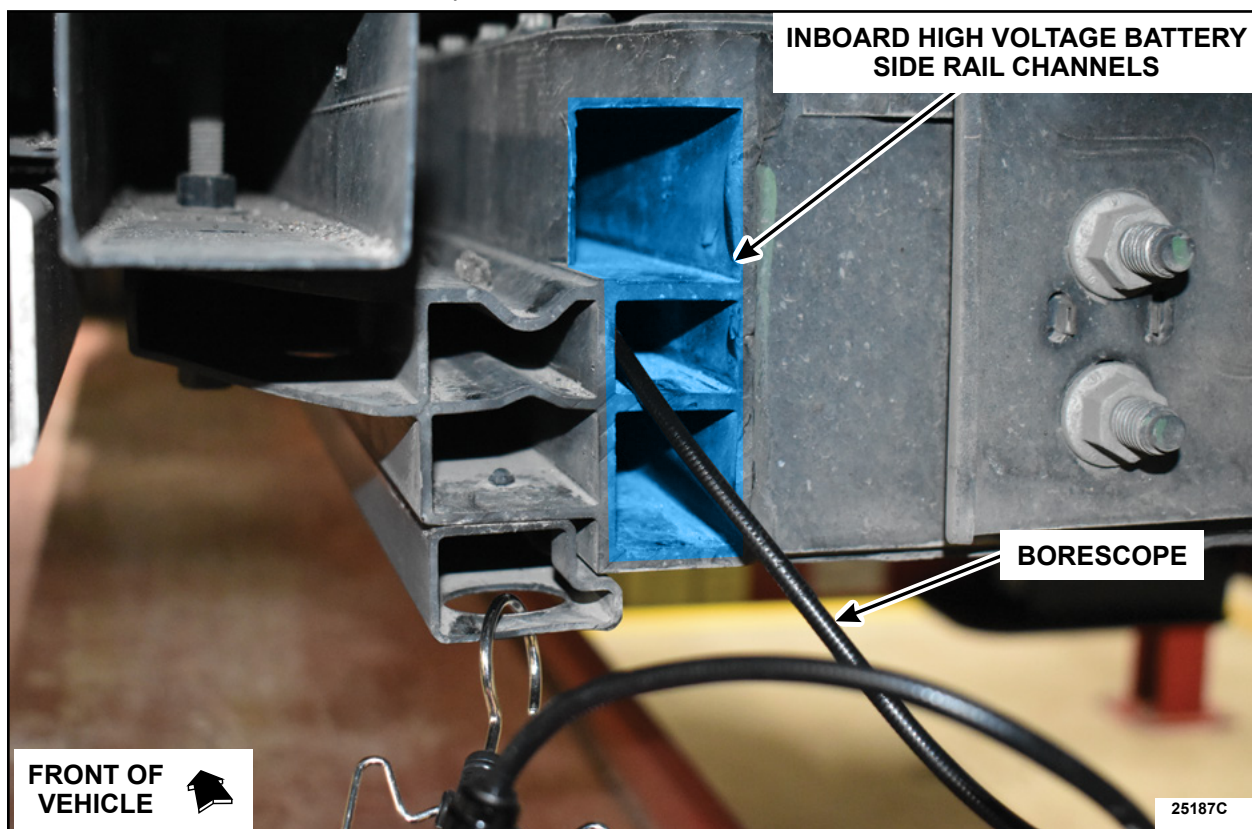

FIGURE 3
6. Using a borescope with a minimum length of 6 ft (2 meters), Inspect the entire length of the three inboard high voltage side rails channels on both sides of the vehicle (6 channels in total 3 per side) for any cracks or stress marks. See Figures 3, 4 and 5.